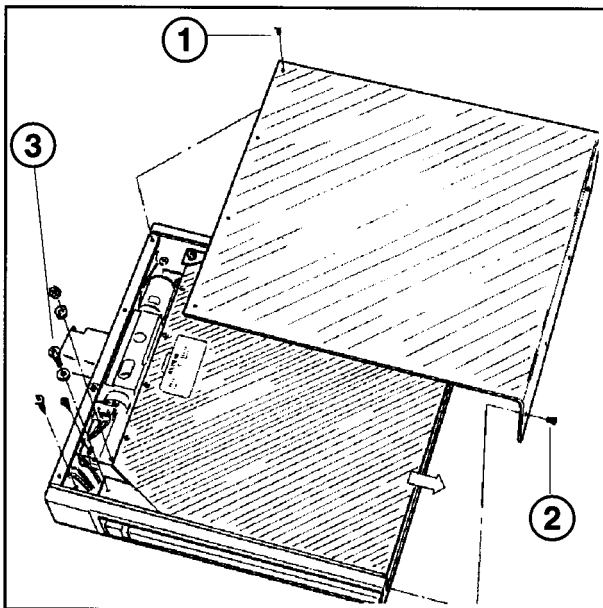

Fig. 7
- Loosen the four long screws on the top side (1/Fig. 7) and the four short screws at the front (2/Fig. 7). Remove cover. The grid device is now accessible.